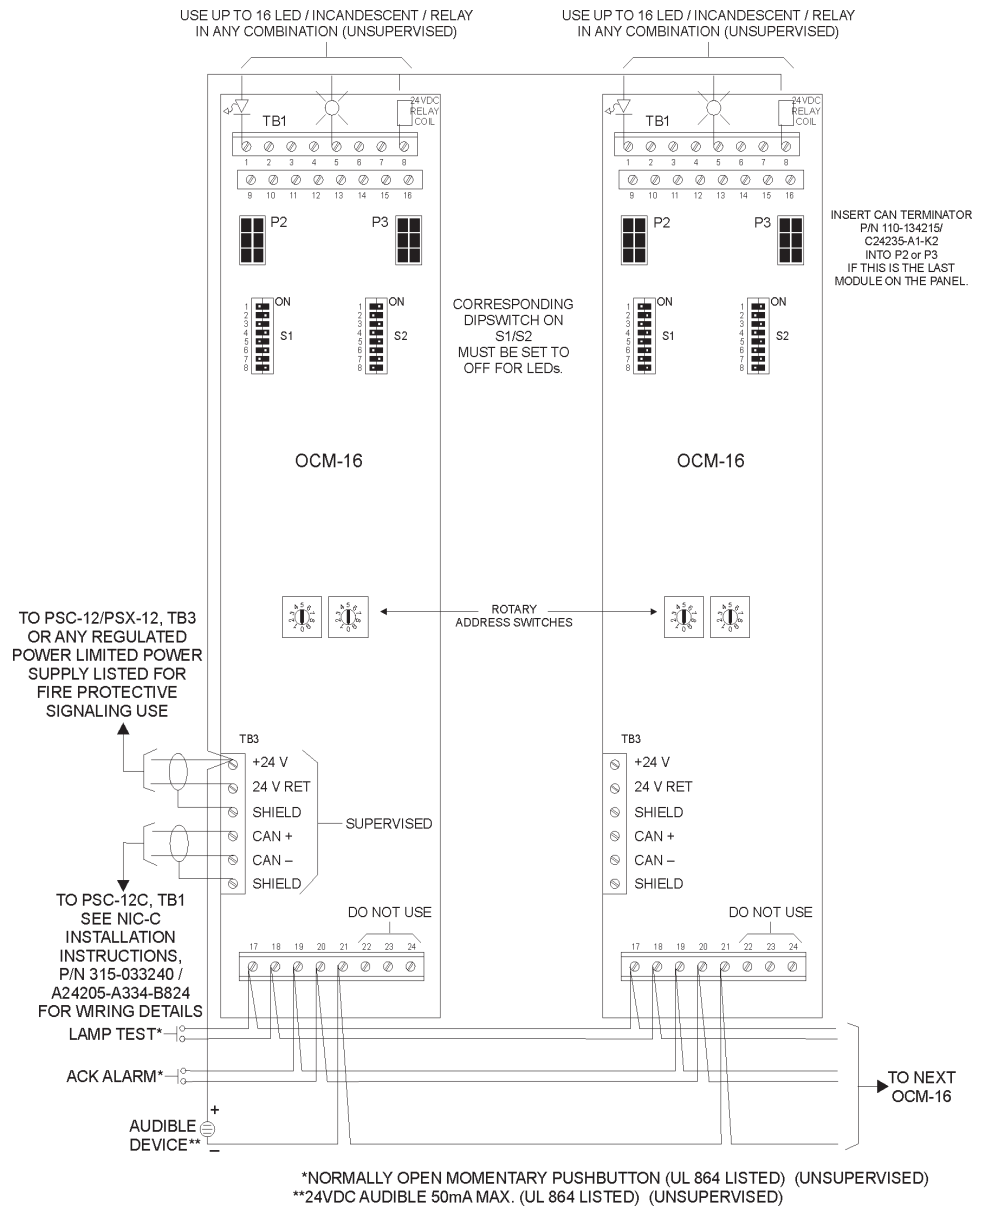

Figure 2
**Rotary Address Switches** - Set the board address for each OCM-16 using both of the ten-position rotary switches located on the board (See Figure 2). Each of these addresses must be a sub-address of **the NIC-C or of the DAC-NET (in CE applications) and must be the same as the addresses assigned in the Zeus Programming Tool.**
- The OCM-16 can be installed with or without an RNI. Connect 24V and CAN bus as shown in Figures 2 and 3.